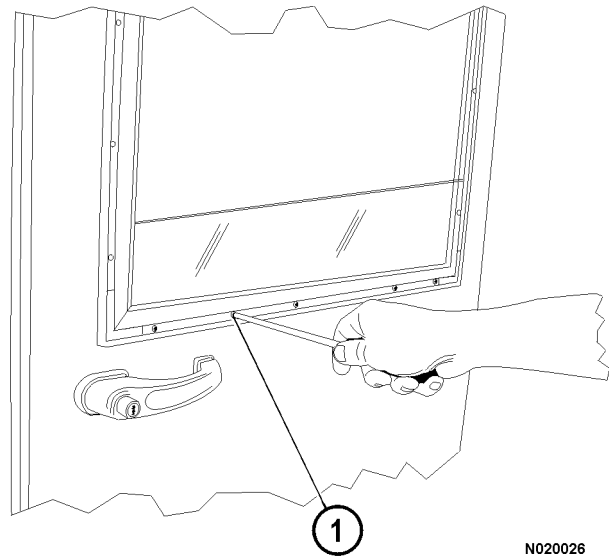

FIGURE 2-11.
9. Remove the trim material covering the screws holding the window frame to the door. Remove screws (1, Figure 2-11) holding window frame to the door.